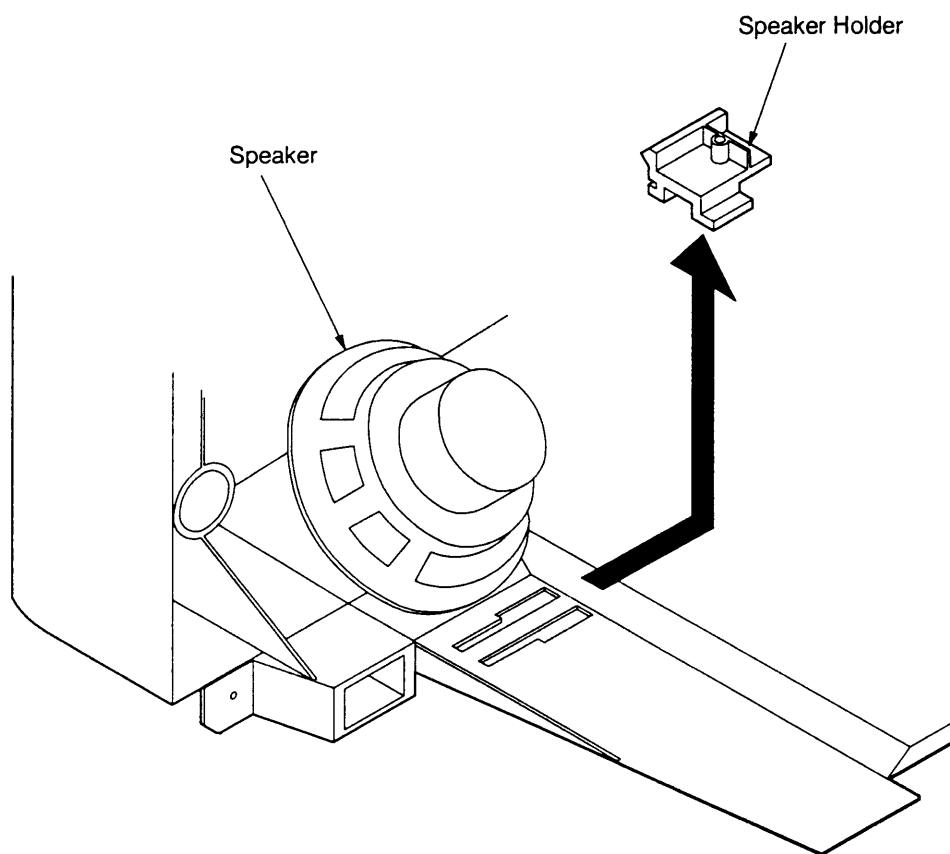

Fig. 3
1. Remove the Speaker Holder shown in Fig. 3 in the direction shown by arrow.
2. Remove the Speaker shown in Fig. 3.